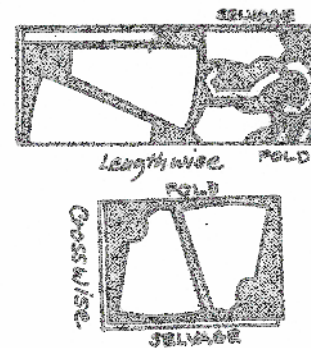

Figure 4
- if the fabric is folded, is it lengthwise or crosswise or a combination of the two. (Figure 4)